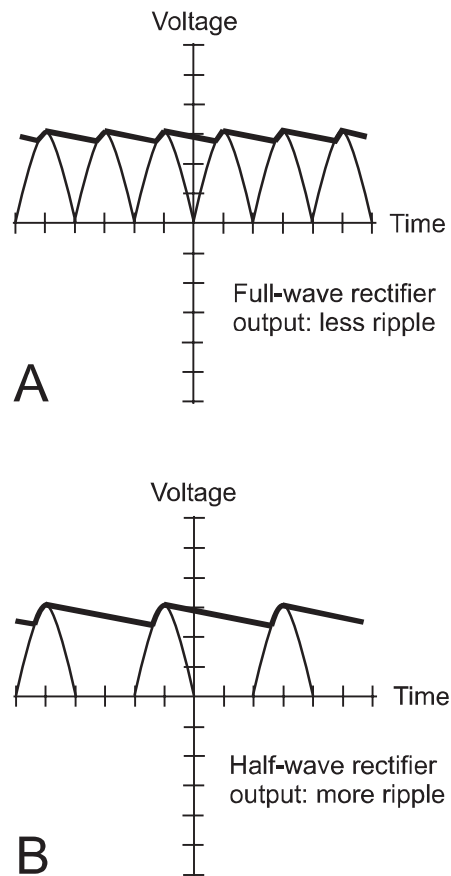

Fig. 4-7. Filtering of ripple from a full-wave rectifier (A) and from a half-wave rectifier (B).
Filter capacitors work by “trying” to maintain the DC voltage at its peak level (Fig. 4-7). This is easier to do with the output of a full-wave rectifier (A) than with the output of a half-wave rectifier (B). With a full-wave rectifier receiving a 60 Hz AC electrical input, the ripple frequency is 120 Hz; with a half-wave rectifier it is 60 Hz. The filter capacitors are recharged twice as often with a full-wave rectifier, as compared with a half-wave rectifier. The result is that the ripple is less severe, for a given filter capacitance, when a full-wave circuit is used.